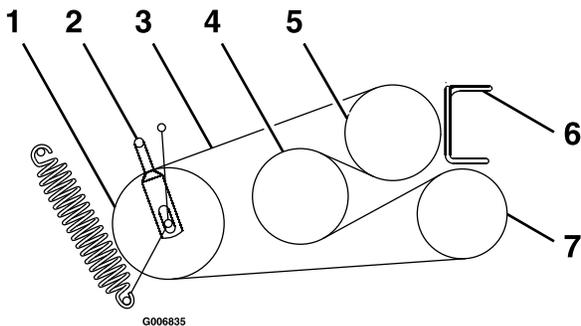

Figure 57
6. Loosen belt guides **A** and **B** (Figure 57).
8. Route the new belts onto the pulleys as shown in Figure 57.